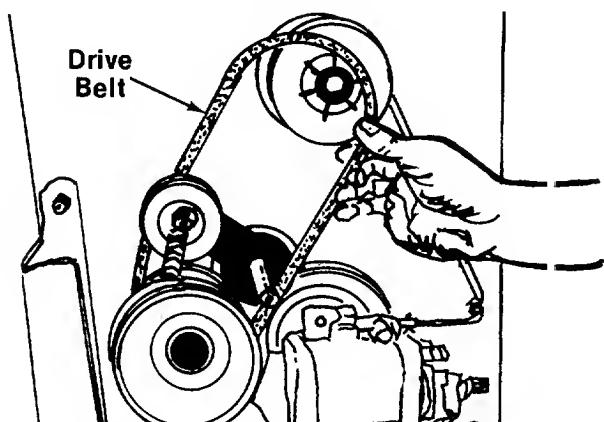

FIGURE 35.
11. Remove and replace the "V"-belt. See figure 35.